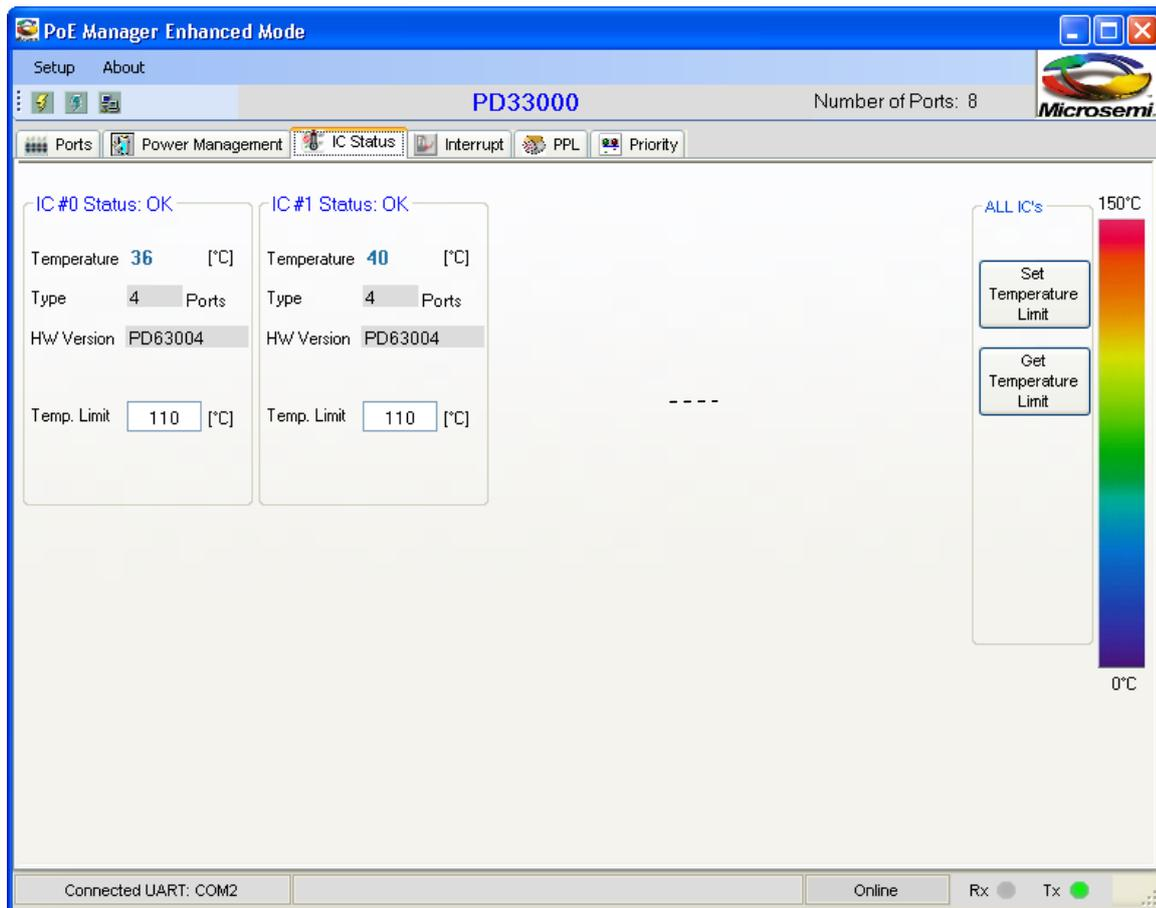

Figure 6-4: PoE Manager Enhanced Mode Window, IC Status Tab (PoE+)
- On the PoE Manager Enhanced Mode window, click **IC Status tab**. The followingscreen appears (Figure 6-4):